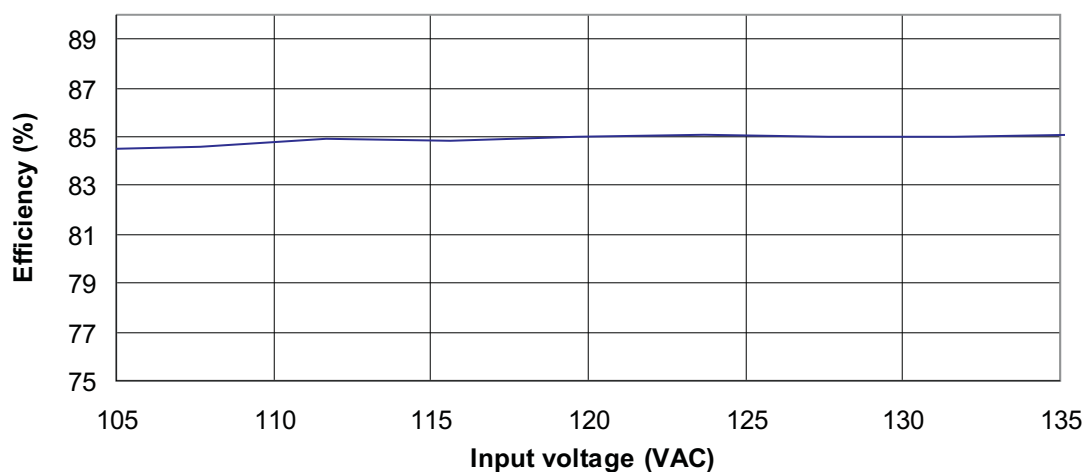
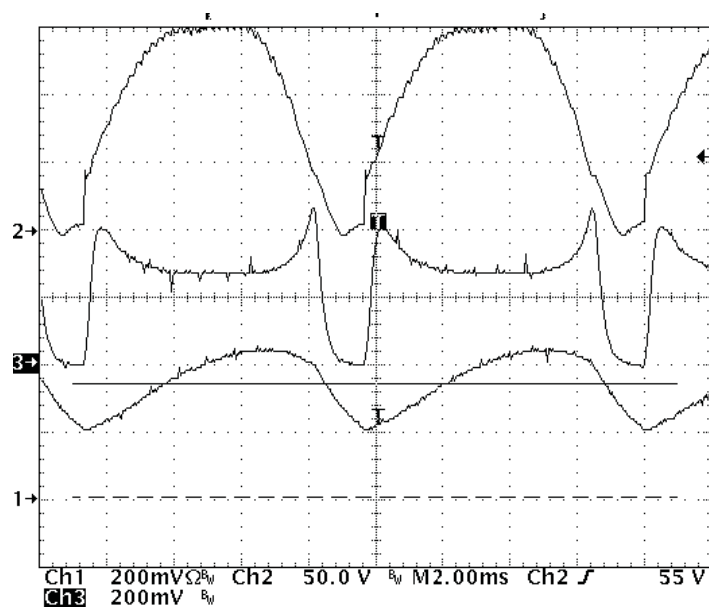

Figure 3. Efficiency
Figure 28. LED Current vs. Triac Conduction Time
Figure 3 through Figure 28 present typical performance curves for TPS92001EVM-628.
2. Figure 6 through Figure 28 input set to 120 V_{AC} nominal.